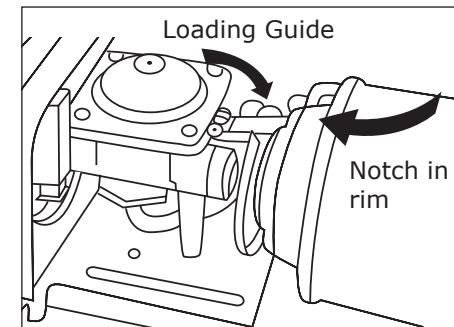

Fig. 4
4. Open the Cartridge Cover: slide the gas cartridge, top end first and with its notch up, into the compartment. Align cartridge collar notch with the locator tab on the appliance. (Fig. 4)